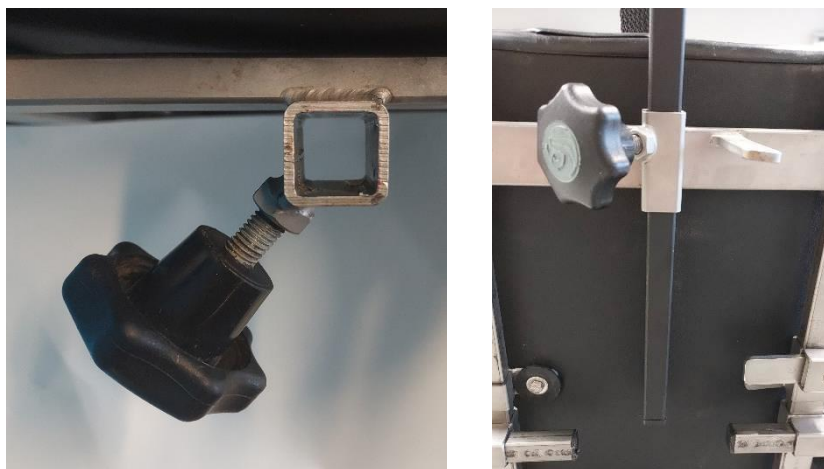

Figure 1. 16 x 16 mm square holder.
2. Install the vertical adjuster of CoMoveIT Smart to the holder of the back of the wheelchair seat and tighten the rotary knob. CoMoveIT Smart can fit in any 16 x 16mm square holder. See Figure 1.